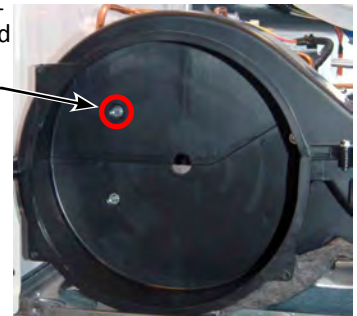

Figure 2
8. Remove the one 1/4” hex-head screw located behind the blower wheel (see Figure 2 at right).